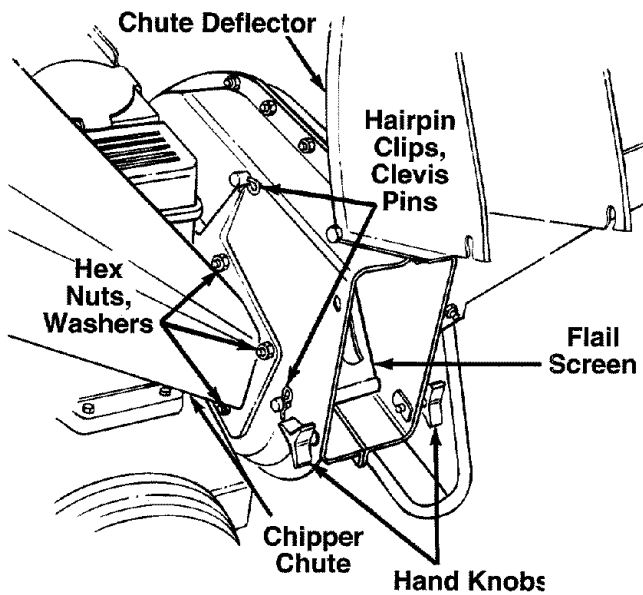

FIGURE 19.
- Remove two hairpin clips from the clevis pins which extend through the housing. Remove the clevis pins. Lift the flail screen from inside the housing. See figure 19.
NOTE: Be certain to reassemble the flail screen with the curved side down as shown in figure 19.
- Remove the chipper chute by removing three hex nuts and washers. A 1/2" wrench is required. See figure 19.
Make certain blades are reassembled with the sharp edge facing the direction shown in figure 19 (sharp edge is assembled toward the slotted opening in the impeller assembly). Torque bolts and nuts to 250-350 inch pounds.